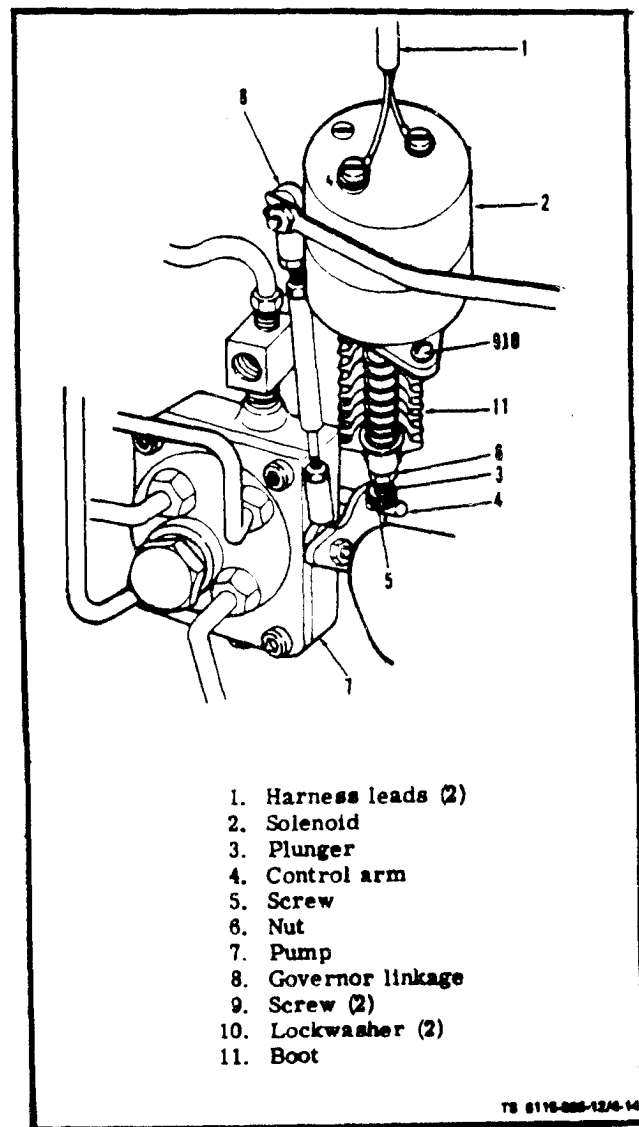
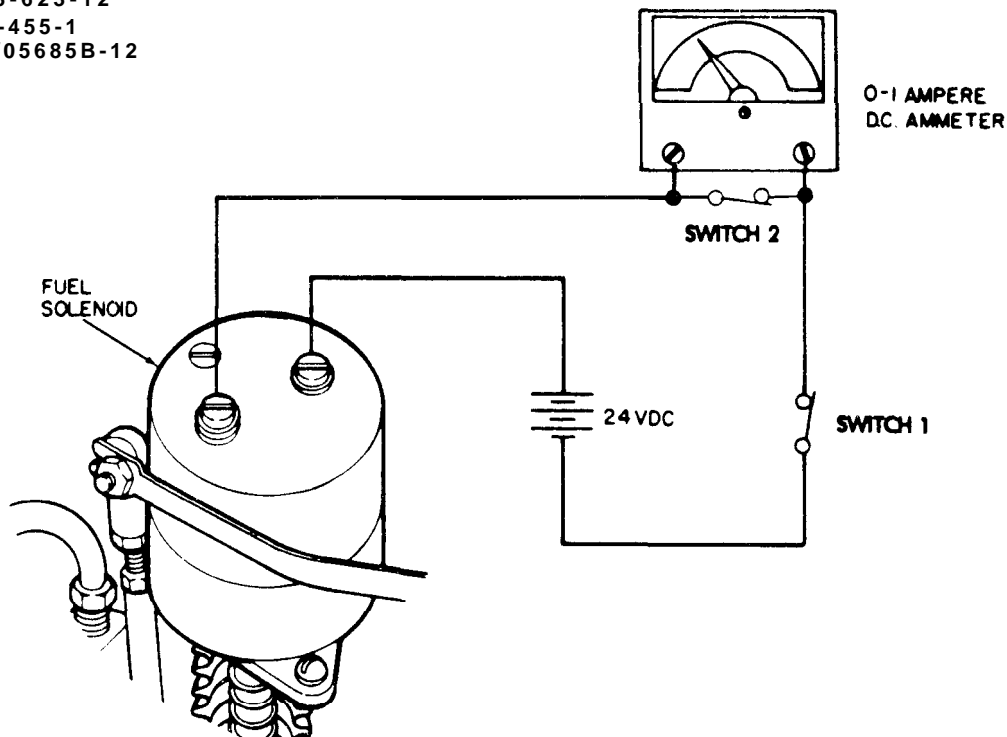

Figure 4-14. Adjusting Fuel Shut\_Off Solenoid
Figure 4-15. Fuel Solenoid Test Set-Up.
a. Inspect (on Equipment) (see figure 4-14). On ASK equipped generators, remove right panel assembly (para. 5-6). Check that electrical connections (1) are secure and clean. Check that rubber boot (11) is clean and not broken. Check that governor and pump linkage moves freely and is clean.
b. Test (on Equipment) (see figure 4-15).
(1) Tag and remove the solenoid harness leads (1). Figure 4-14.
(2) Connect the solenoid into test setup (figure 4-15).
(3) With switch (S1) closed the plunger should actuate and the current draw should be 0.25 ampere dc.
(4) If plunger does not actuate or if meter reads above 0.35 amperes replace solenoid.
c. Remove (see figure 4-14). Tag and disconnect harness leads (1). Remove the shut-off solenoid by removing screws (9) and lockwashers (10).
d. Installation. Mount shut-off solenoid using screws (9) and lockwashers (10). Reconnect previously tagged and removed harness wires (1).
e. Adjust. The solenoid plunger (3) should be adjusted so it fully stops injection when in the deenergized position. With engine running at full rated load, clearance between plunger (3) and control arm (4) should be at least 1/8 inch. To adjust the plunger length, loosen jam nut (6) on bottom of plunger. Turn knurled headscrew (5). Lock jam nut (6) after correct adjustment. On ASK equipped generators, install right panel assembly (para. 5-6).